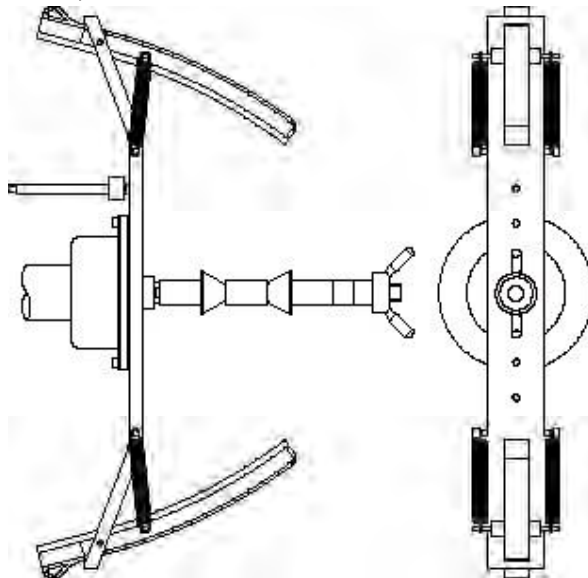

Fig. F4.3 Application of the sample weight on the external side of the flange for motorbikes on the shaft (Cal3 phase)
10. At the end of the launch, the machine will display the writing . Apply the calibration weight on the external side as shown in Figure F4.3. The calibration weight is to be applied on the hole that has the wording “CAL” marked on it;
part as shown in figure F4.3 and press the [P8] Start or lower the wheel guard. If the position is significantly different from the vertical one, the machine will reject running the launch by emitting an acoustic error message (triple beep).